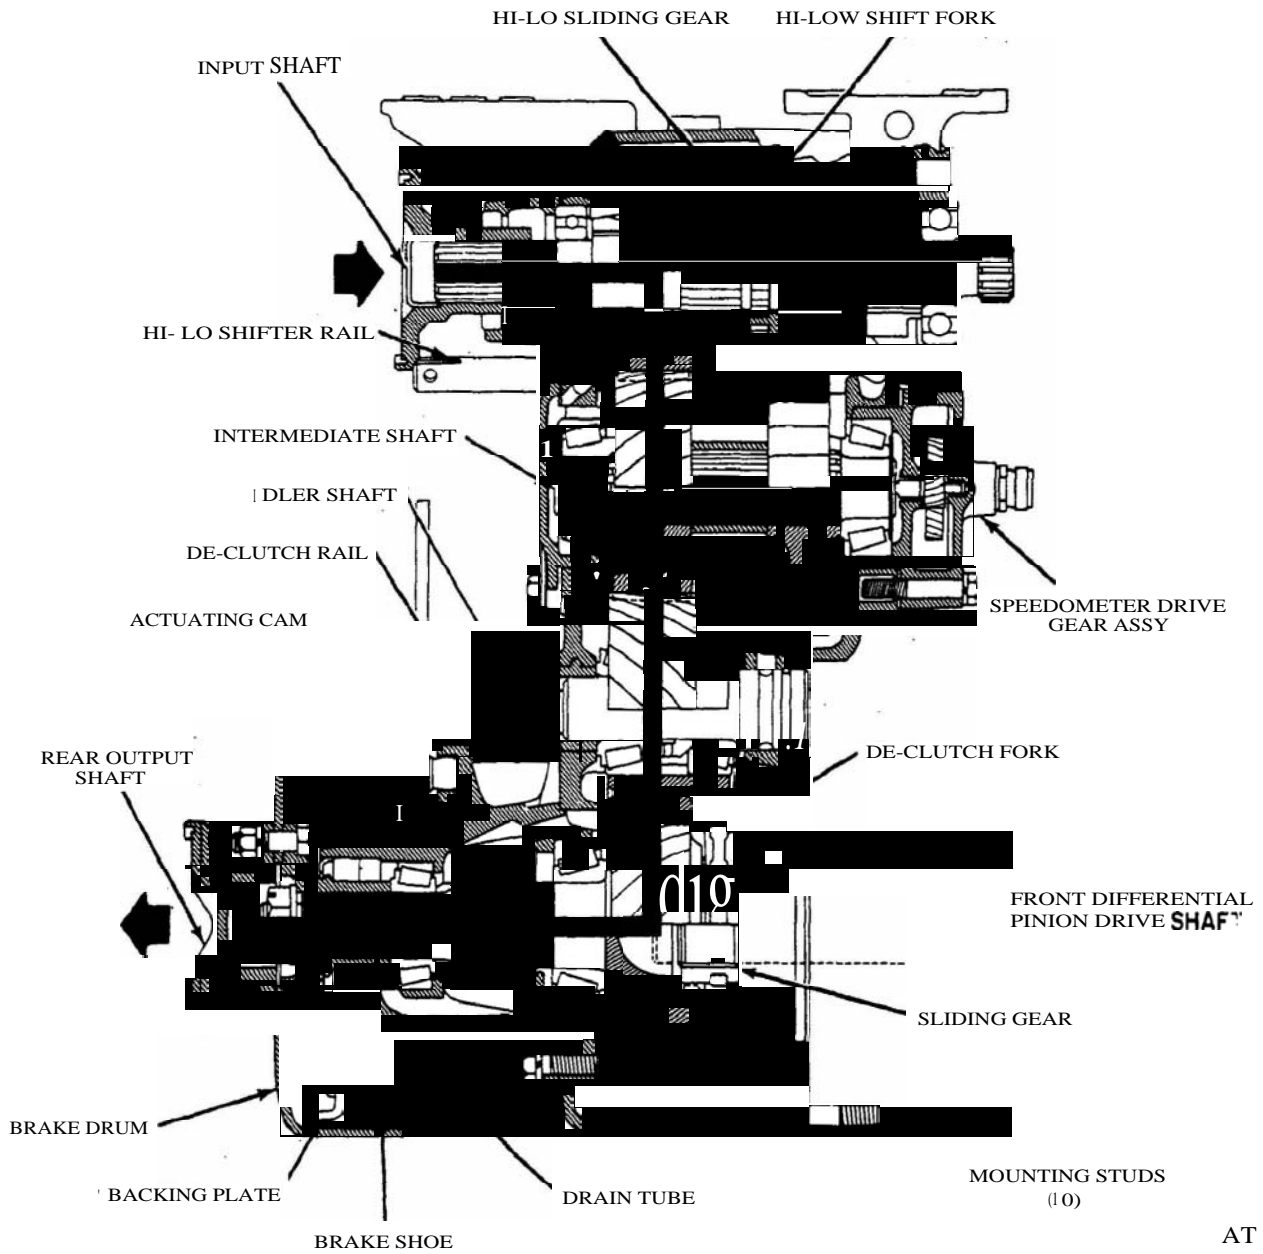

Figure 3-39. High range power flow.
b. In high range, the **hi-lo** sliding gear is moved to the rear of the splined input shaft by the shifting fork to engage with and drive the input shaft free running constant mesh gear. Power is then transmitted to the axle drive shaft through the constant mesh idler gear to the intermediate gear and then to the output drive gear (fig 3-39).